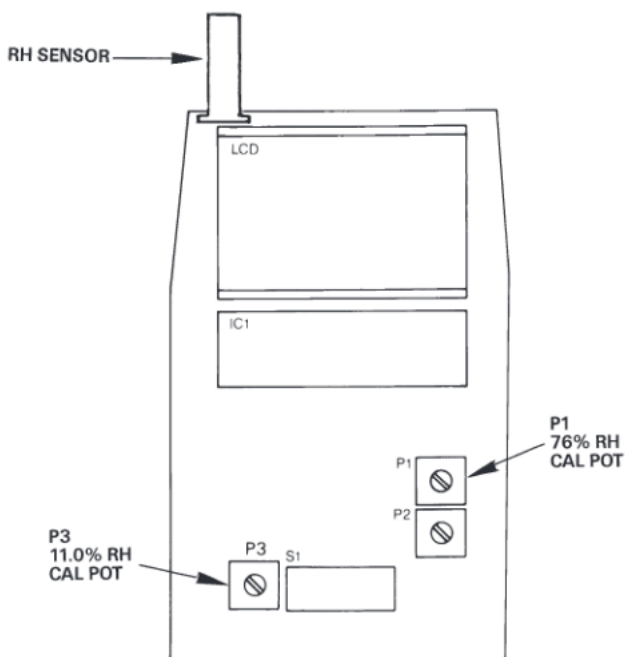

Figure 9-1 RH-10 Humidity Calibration Pots
3. Refer to Figure 9-1 for the location of the humidity calibration pots. Adjust the potentiometer P3 until the display reads 11.0 RH. If it is not possible to adjust the display to 11.0, contact the Customer Service Department at OMEGA Engineering.
Repeat steps #2, #3, #4 above, this time using the 76% salt solution container (sodium chloride). Adjust potentiometer P1 until the display reads 76.0 RH. (Refer to Figure 9-1 for pot location).